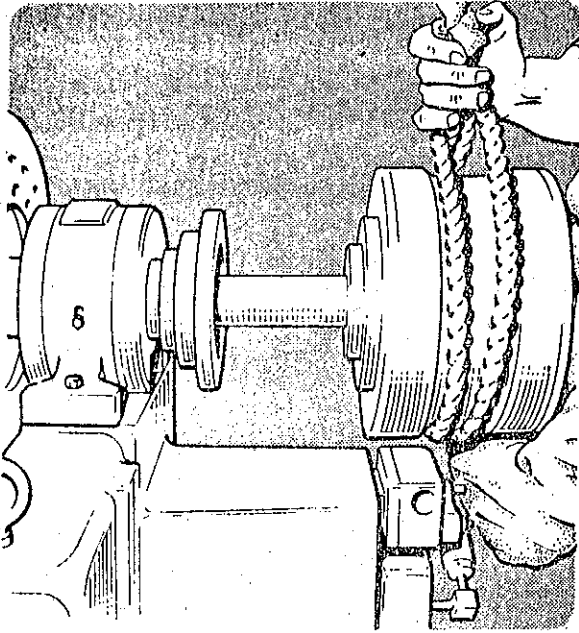

Figure 4. Support and removal of Gearbox
- (f) Support the gear box weight on the sling and carefully withdraw the gear box from the machine (Figure 4).